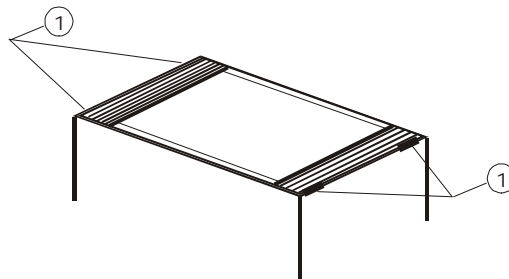

Fig. 4: Battery replacement
2. Remove the covers on the bottom side of the instrument using a screwdriver in the proper positions (1) and unscrew the 4 fixing screws (see Fig. 4).